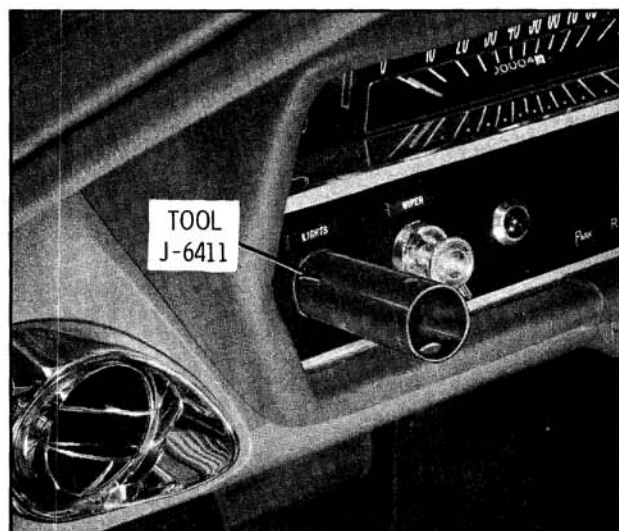

Fig. 12-108 Removing Light Switch
3. Remove escutcheon nut using Tool BT 6411. (Fig. 12-108)